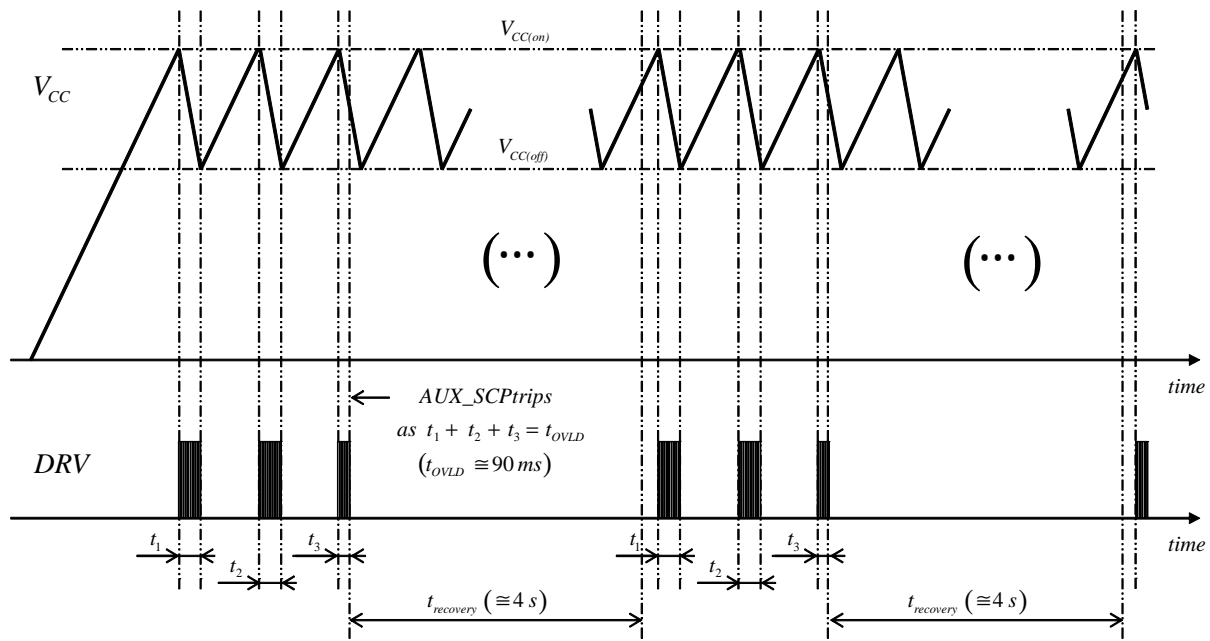

Figure 59. Start-up Sequence in a Load Short-circuit Situation (auto-recovery version)
- If the load is shorted, the circuit will operate in hiccup mode with  $V_{CC}$  oscillating between  $V_{CC(off)}$  and  $V_{CC(on)}$  until the AUX\_SCP protection trips (AUX\_SCP is triggered if the ZCD pin voltage does not exceed 1 V within a 90-ms operation period of time thus indicating a short to ground of the ZCD pin or an excessive load preventing the output voltage from rising). The NCL30085A latches off in this case. With the B version, the AUX\_SCP protection forces the 4-s auto-recovery delay to reduce the operation duty-ratio. Figure 59 illustrates a start-up sequence with the output shorted to ground, in this second case.